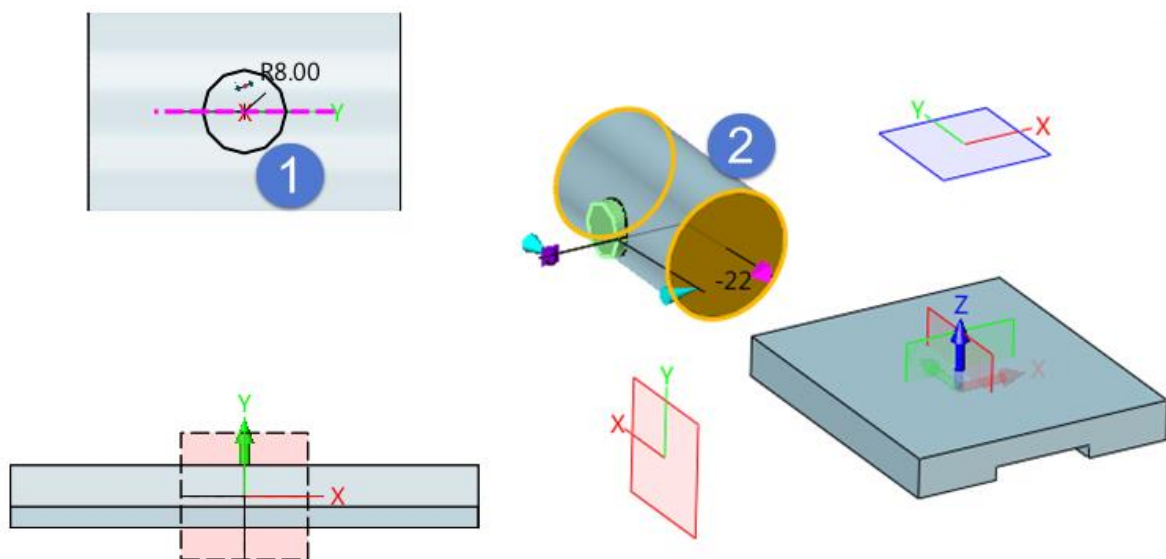

Figure 106 Extrude-Add
STEP 01 Select plane2 to draw a sketch. The circle radius is 8mm, which is the same horizontal position with the plane1. See the Figure106 on the left.